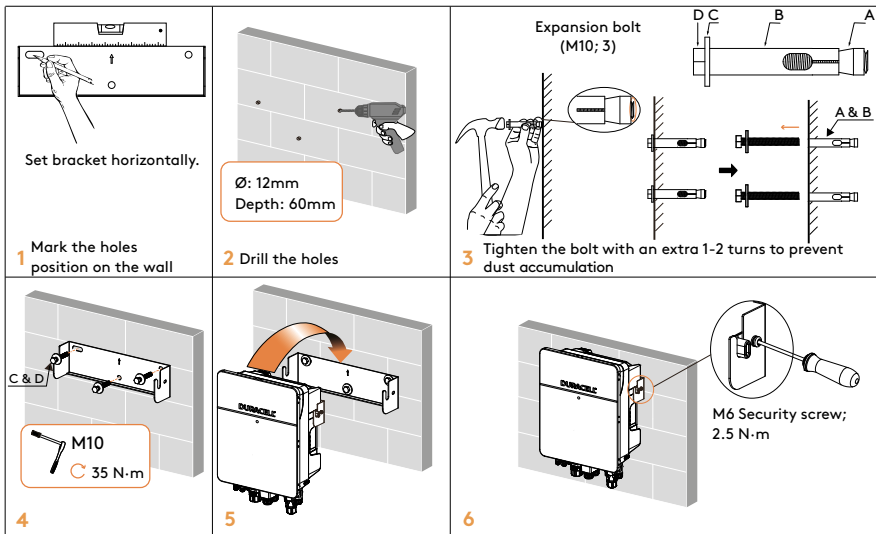

Figure 12.
1. Use a level ruler to mark the position of the 3 holes on the wall. Refer to Figure a. And drill 3 holes, 12mm in diameter and 60mm in depth. Refer to **Figure 12, (2)**.
2. Using a hammer to tap the expansion bolt kit into the hole. Refer to **Figure 12, (3)**. Do not disassemble the expansion bolt - before tapping the expansion bolt into the hole, tighten the bolt with an extra 1-2 turns to prevent dust accumulation.
3. After tightening the 3 bolts, then unscrew the threaded bolts. Refer to **Figure 12, (3)**.
4. Install and fix the mounting bracket on the wall. Refer to **Figure 12, (4)**.
Step 1. Install the inverter on the mounting bracket. Then lock the inverter using the security screw. Refer to Figure 12, (5) & (6).